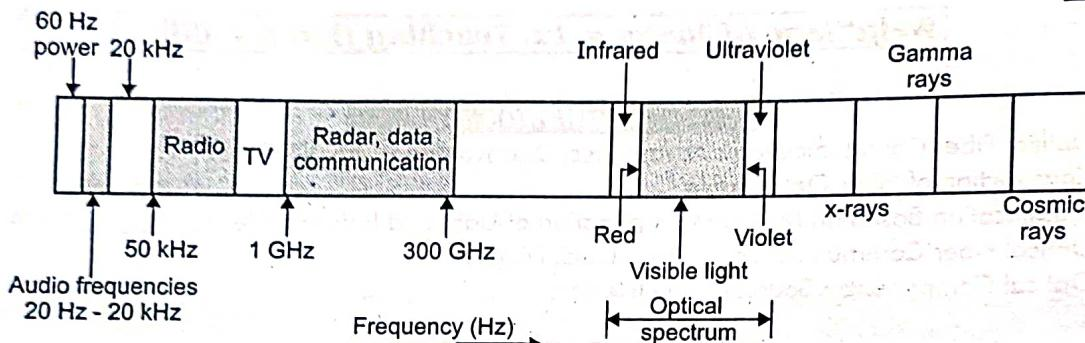

Fig. 1.1: Electromagnetic Frequency Spectrum
- To put light waves into perspective with the lower radio and other frequencies shown in Fig. 1.1.